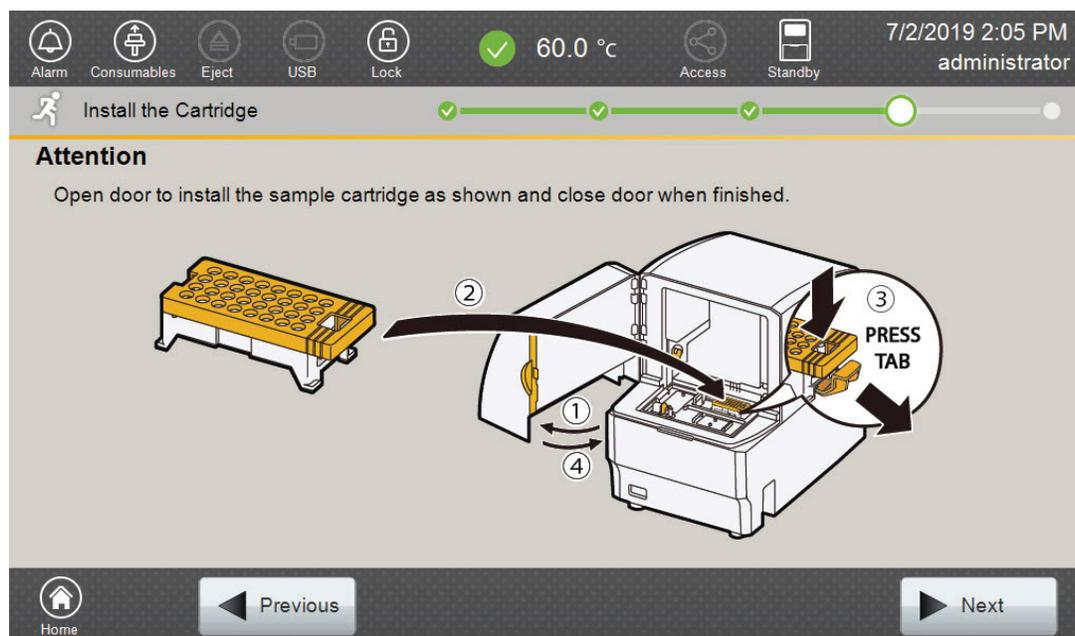

Figure 20. 'Install the Cartridge' Screen.
2. Open the instrument door, and then place the sample cartridge on the autosampler, following the instructions displayed on the 'Install the Cartridge' screen (Figure 20). Press down on the yellow tab on the autosampler deck that locks the sample cartridge in place before placing sample cartridge into position. Release the tab to lock the sample cartridge in place on the autosampler deck.